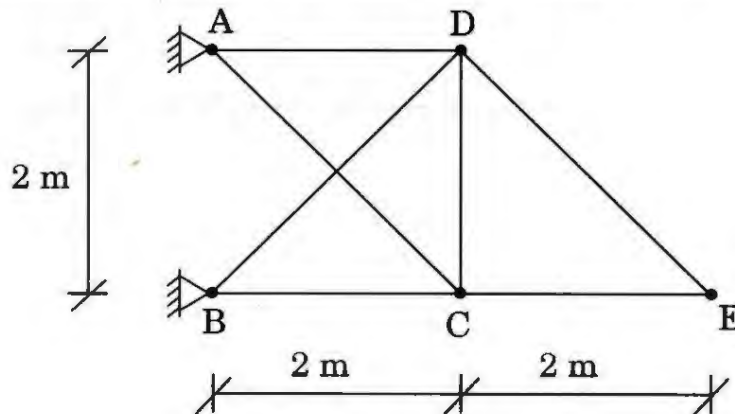

Figure 6
- (b) Determine the forces in all the members of the truss as shown in Figure 6 due to a fall of temperature of the member BD by 30°C. Cross-sectional area of all the members = 1500 mm². $\alpha = 0.00001/^{\circ}\text{C}$. 20